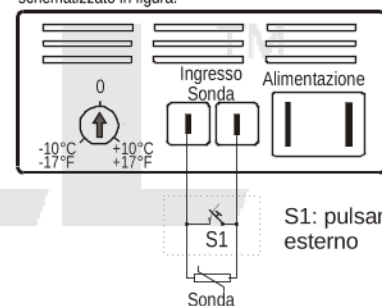

Fig.2
6. EXTERNAL PUSH-BUTTON CONNECTION (FIG.2)
2. Connect the push button in parallel with the probe as shown in Fig.2.
7. If possible, the manufacturer suggests connecting the phase (L) to the fast-on on the right and neutral (N) to the fast-on on the left as indicated.
6. COLLEGAMENTO PULSANTE ESTERNO (FIG.2)